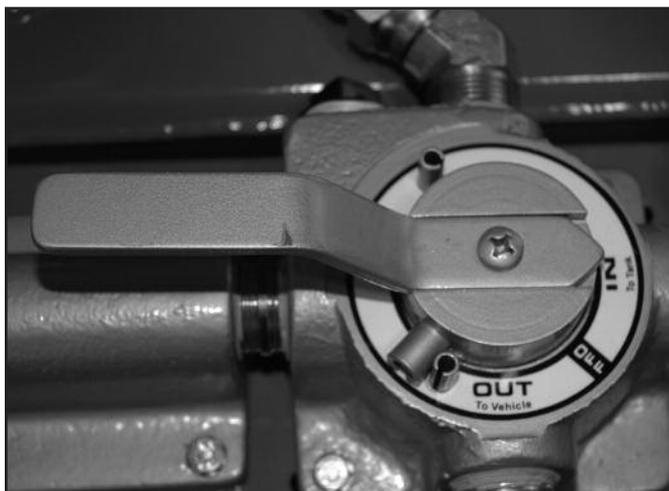

Fig. 2
4. Align valve handle so that the point is to the "IN" to tank position. See figure 2.